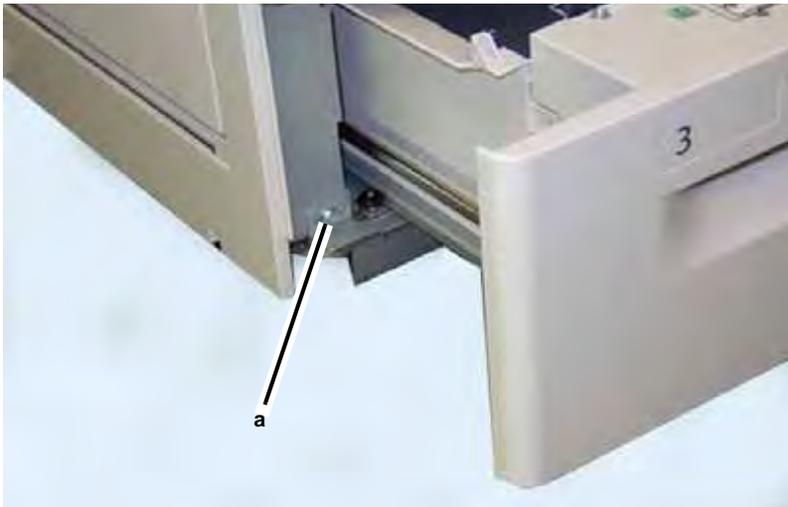

Figure 1 Removing Screw
- a. Loosen the screw holding the stop bracket and move the stop bracket away from the tray (Figure 1).